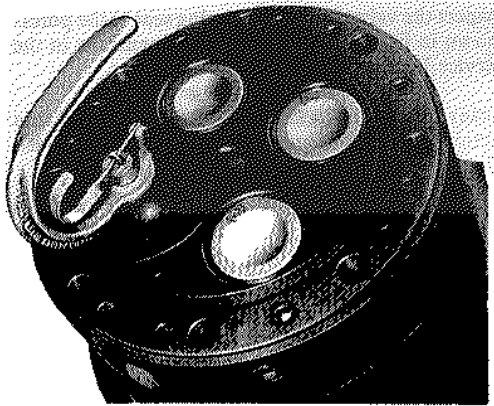

Fig.2-22-Testing Valve Seat Seal ²¹⁸⁹⁸
3. Apply a light film of oil to the concave surface of the tester vacuum cup and attach tester to cylinder head with handle in six o'clock position, and covering one valve, Fig. 2-22.